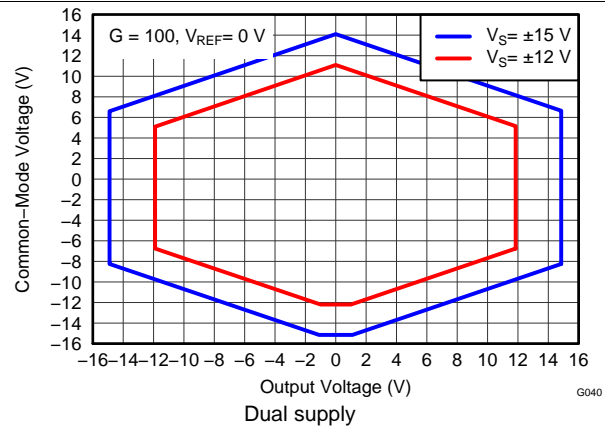

Figure 16. Input Common-Mode Voltage vs Output Voltage
(1) Total offset, referred-to-input (RTI):  $V_{OS} = (V_{OSI}) + (V_{OSO} / G)$ .
(2) Input voltage range of the INA826 input stage. The input range depends on the common-mode voltage, differential voltage, gain, and reference voltage. See *Typical Characteristic* curves Figure 9 through Figure 16 and Figure 41 through Figure 44 for more information.